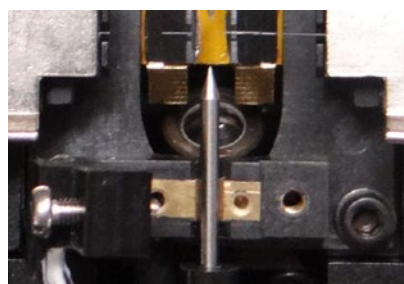

FIGURE 5.6
3. Take out the electrode from the electrode holder. (Electrode is fixed on the electrode holder, figure 5.6).